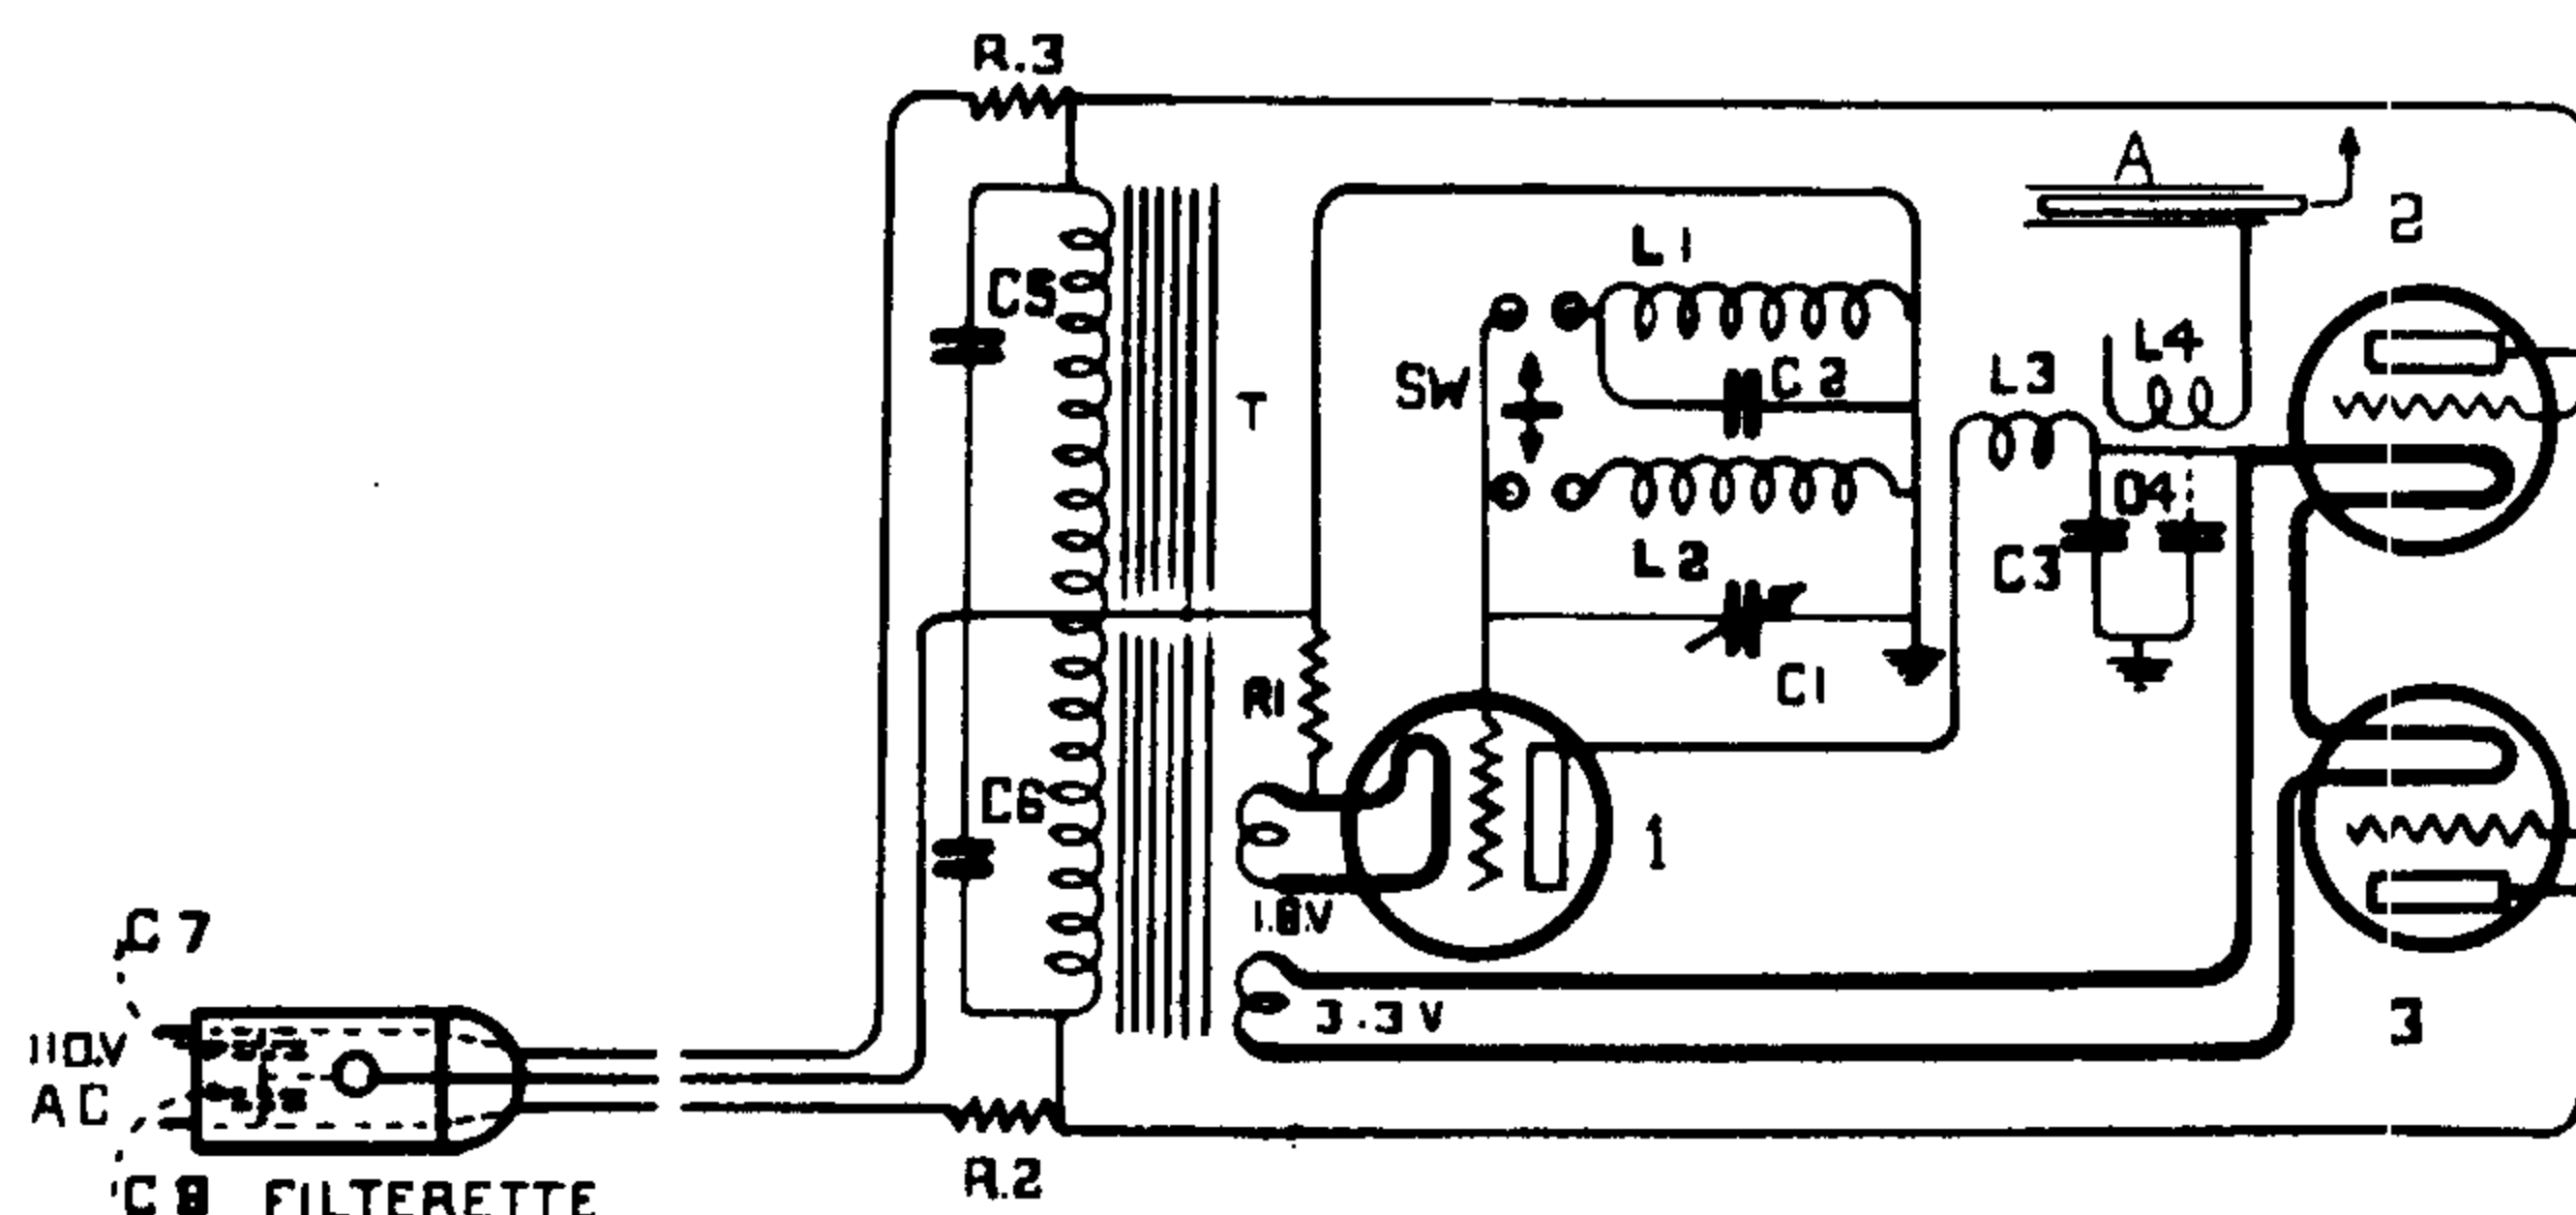

Fig. 2. Schematic Diagram
The circuit diagram is shown in Figure 2. It will be seen that the transformer (T) has two secondary windings. One secondary supplies the filament current to the oscillator radiotron No. 1. The other secondary supplies the filament current to radiotrons No. 1 and No. 2 which are used as half wave rectifiers. This filament heating transformer is also centre-tapped to provide a third connection necessary for the rectifier circuit. It will be seen that the rectifier circuit is as follows: